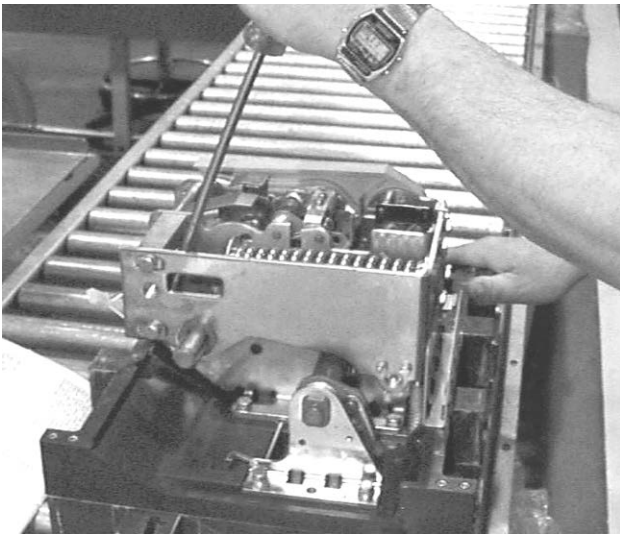
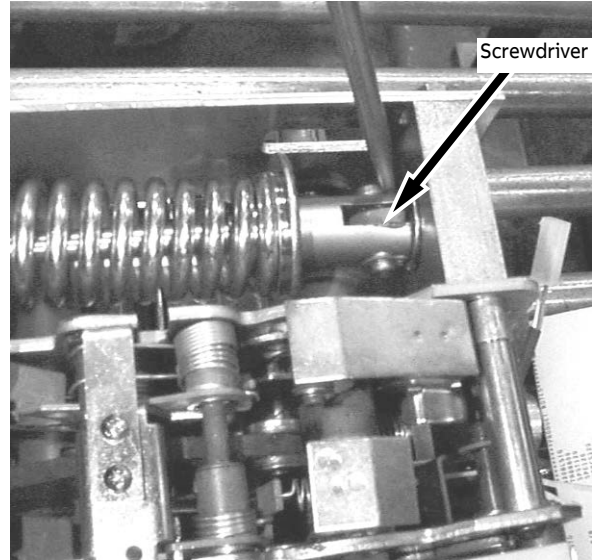

Figure 3: Applying pressure to the end of the closing spring.
Figure 4: Application point of screwdriver.
- a. With a large screwdriver, put pressure on the end of the closing spring, as shown in Figure 3 and Figure 4.